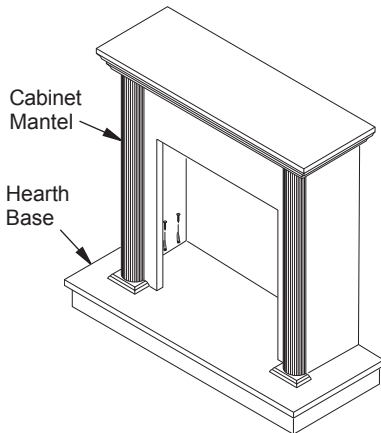

Figure 12 - Installing Cabinet Mantel onto Hearth Base
- Center cabinet mantel on hearth base (see Figure 12). Make sure mantel is flush against wall and centered left to right on base.